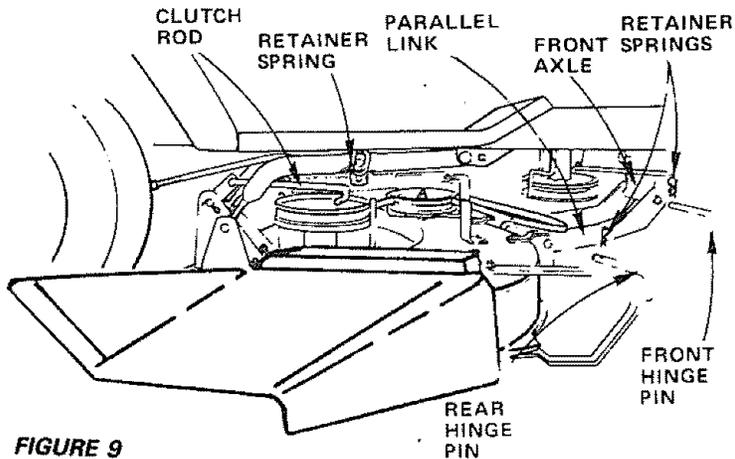

FIGURE 9
- Install front hinge pin through axle and parallel link (Fig. 9). Secure with retainer spring.
- Install front hinge pin through mower lift brackets and parallel link (Fig. 9). Secure with retainer spring.